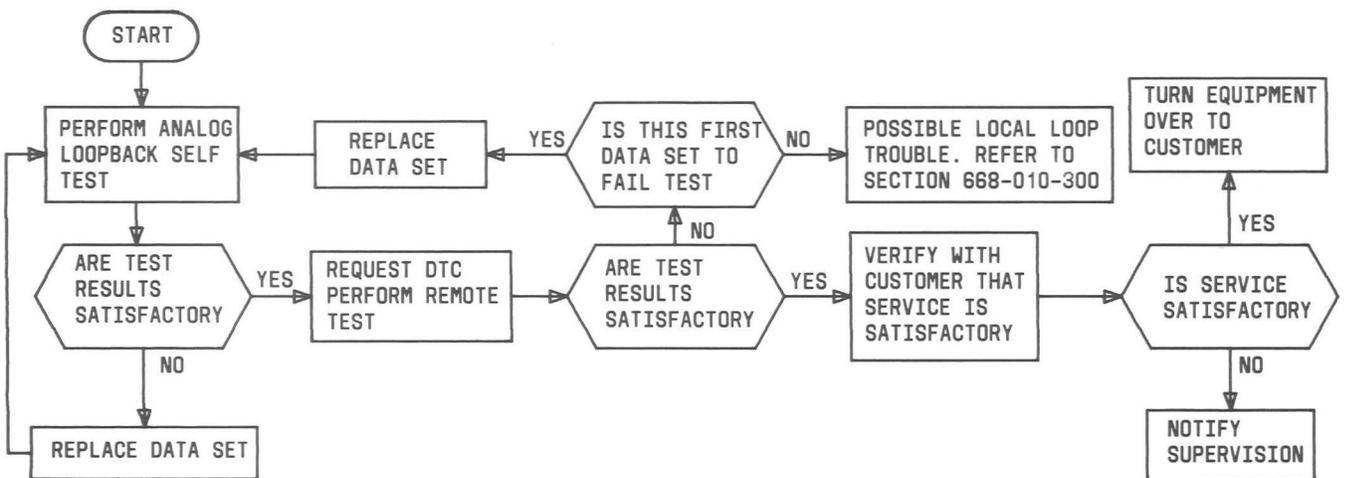

Fig. 2—Installation Test Sequence
2.02 Refer to Fig. 2 for the sequence of tests to be performed to verify proper installation. The 921A DTS is not required for installation testing, but may be used if needed.